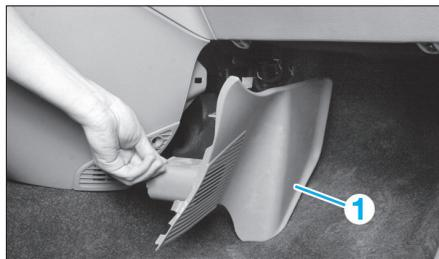

FIG. 11
- Déposer la garniture (1) (Fig.11).